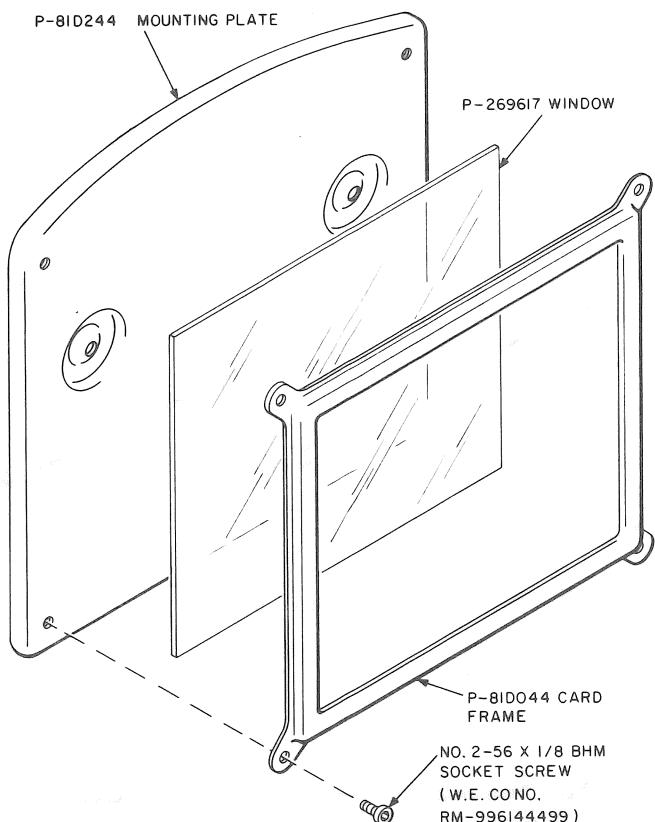

Fig. 33—50K-44 Apparatus Blank
- (1) Remove upper housing.
- (2) Remove three No. 4-36 by 9/32 RHM screws.
- (3) Install new apparatus blank using reverse procedure.
- 6.48 Replace damaged or missing screws and plastic windows per Fig. 33.